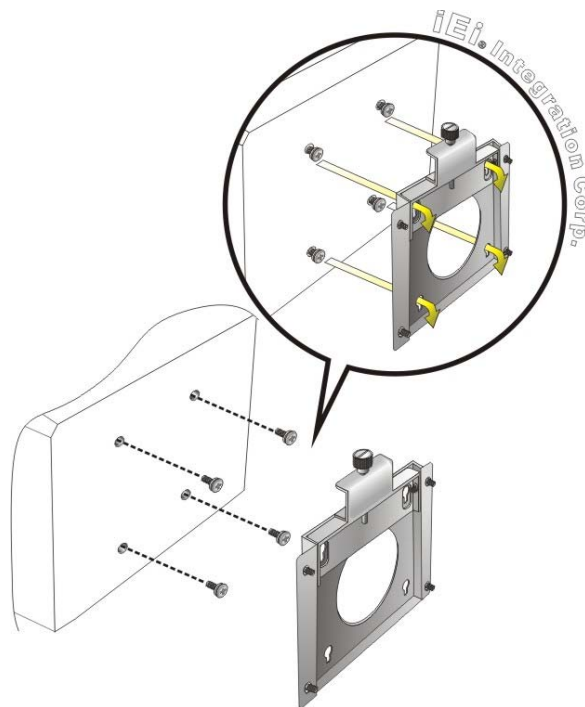

Figure 3-12: Chassis Support Screws
Step 6: Insert the four monitor mounting screws provided in the wall mount kit into the four screw holes on the rear panel of the flat bezel panel PC and tighten until the screw shank is secured against the rear panel (**Figure 3-12**).
Step 8: Carefully insert the screws through the holes and gently pull the monitor downwards until the monitor rests securely in the slotted holes (**Figure 3-12**). Ensure that all four of the mounting screws fit snugly into their respective slotted holes. Always keep the AFL3-08A-BT in landscape orientation when mounting on the wall.